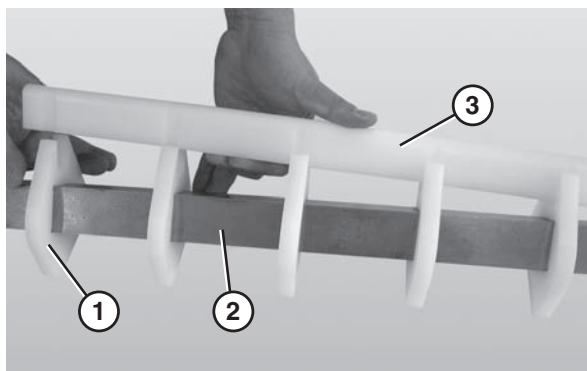

Figure 67
- Slide the nose bar pucks (**Figure 67, item 1**) onto the nose bar drive post (**Figure 67, item 2**).
- Attach the nose bar wear strip (**Figure 67, item 3**).